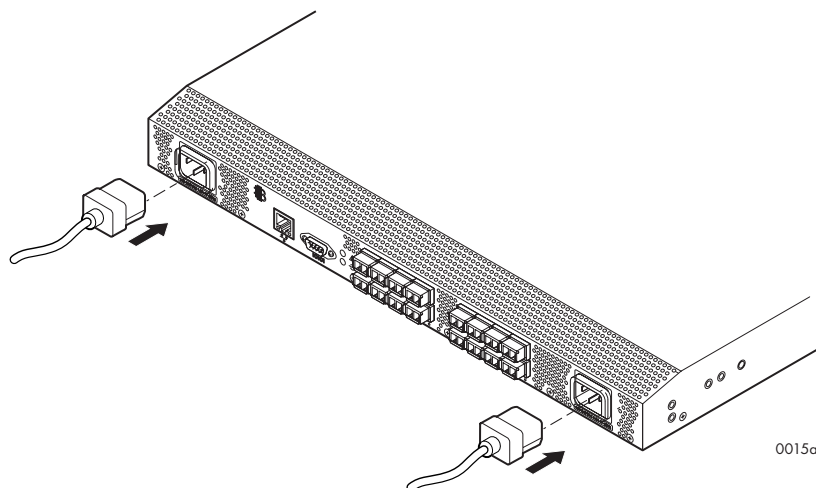

Figure 18 Connecting SAN Switch 2/16V power cords
1. Connect the power cords to both power supplies and power sources, as shown in Figure 18.